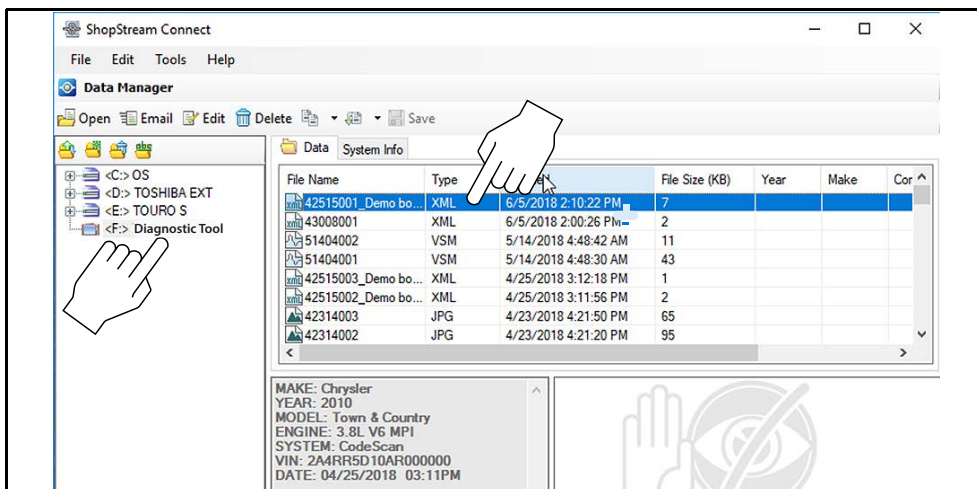
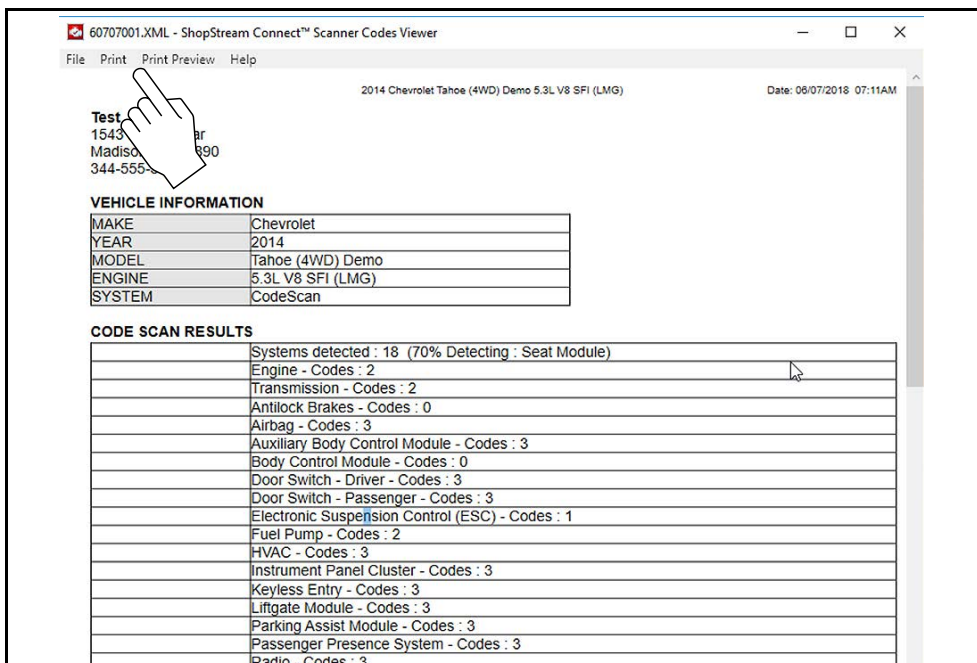

Figure 14-5
Figure 14-6
1. Double-click the code scan .XML file from the file list to open the report (Figure 14-5) in the Code Scan Viewer (Figure 14-6).
2. Select **Print** or **Print Preview** from the Code Scan Viewer menu to print or preview the report (Figure 14-6).